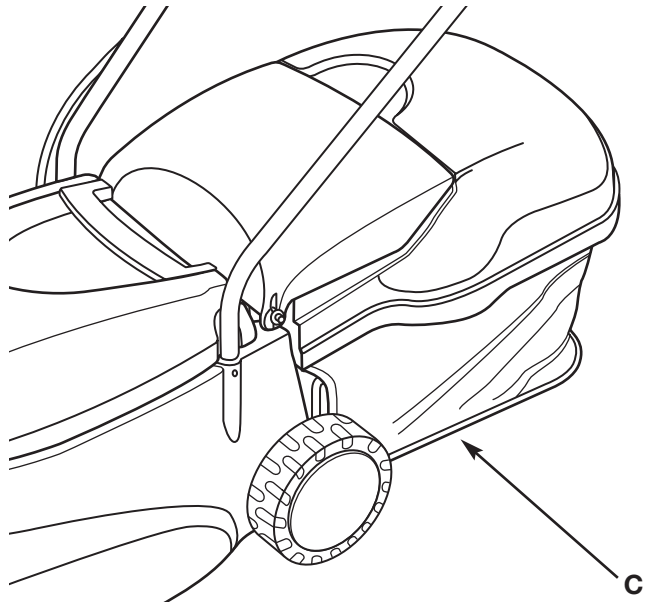

Figure 10
- Proceed to cut as shown in Fig 10, working from position 1 towards position 2.
- Proceed as shown in Figure 10, always working away from the electric extension cable.